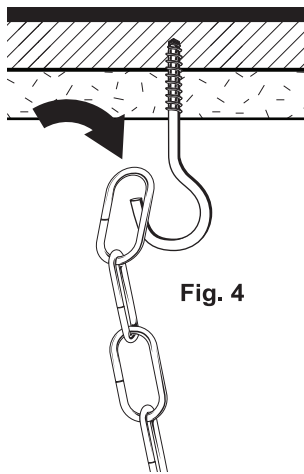
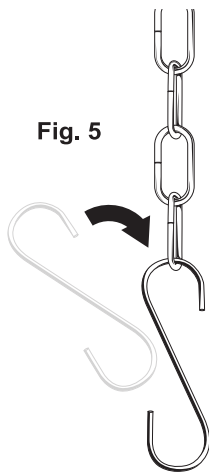
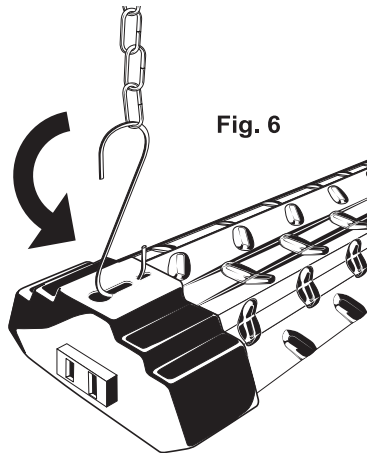

Fig. 4
Fig. 5
Fig. 6
2. Attach the chains to the hook screw attached to the mounting surface. Determine the length the chains will be need to be suspended at and hook the top link on onto the hook screw (**Fig. 4**). Straighten the chains out and attach the "S" hooks to the end of the chains (**Fig. 5**). Insert the other end of the "S" hooks through the slotted holes on top of the fixture at each end (**Fig. 6**). The chains are only designed to hold the weight of the fixture safely. **DO NOT HANG ITEMS OFF OF THE FIXTURE.**